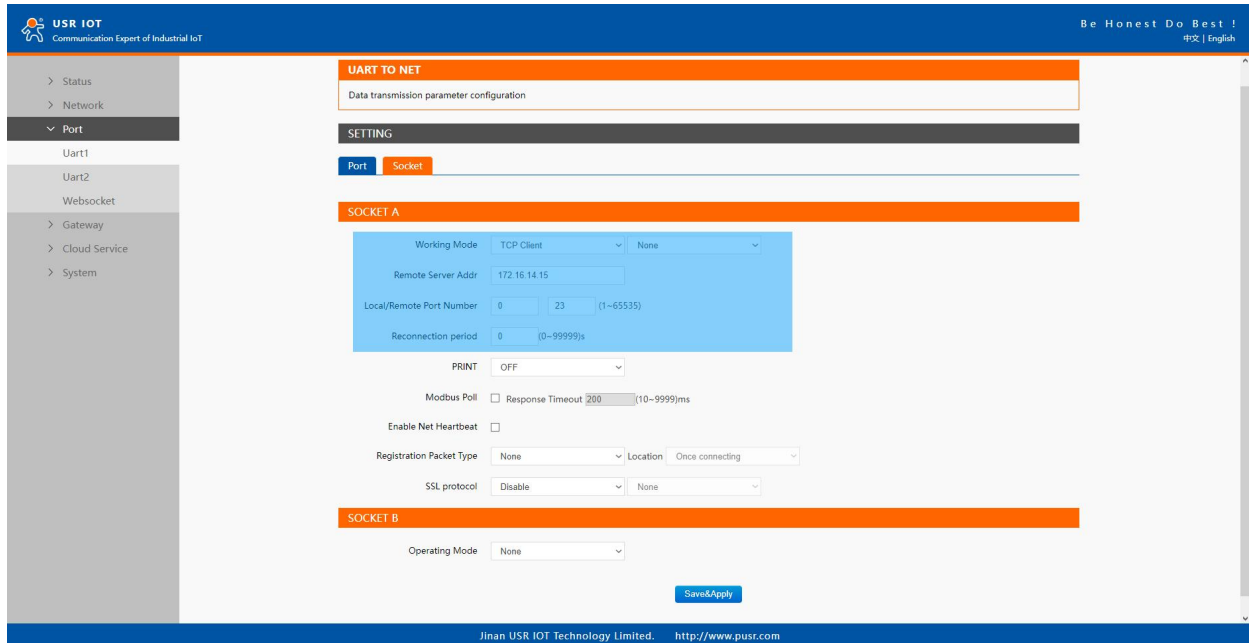

Fig. 38 TCP client work mode
Fig.38 shows an example of configuration setting for TCP Client working mode under the Uart1 socket page. You can configure other serial ports in the same way. There are additional connection settings that can be configured as shown in Fig.38.
1. Click on the "Uart1" tab on the menu frame on the left side of Web UI to go to Uart1 page as shown in Fig.38.